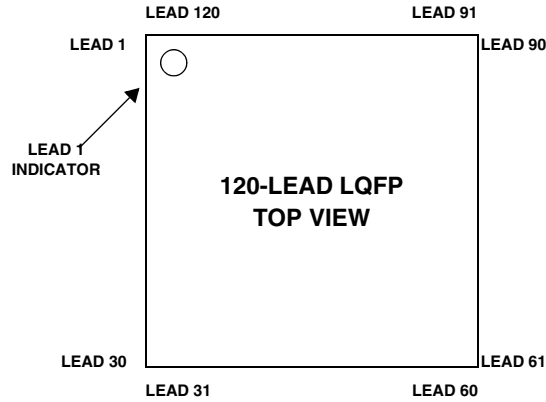
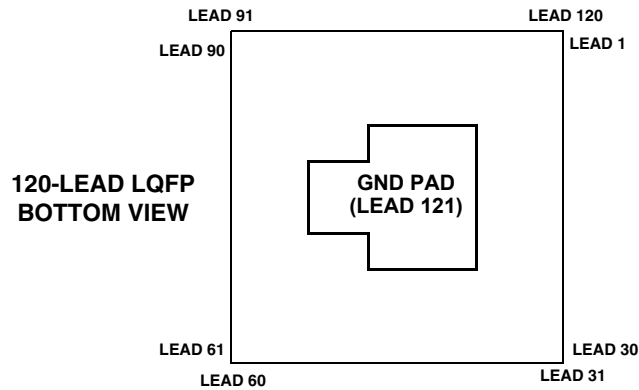

Figure 68. 120-Lead LQFP Configuration (Top View)
Figure 69. 120-Lead LQFP Configuration (Bottom View)
* Pin no. 121 is the GND supply (see Figure 69) for the processor; this pad **must** connect to GND.
Figure 68 shows the top view of the 120-lead LQFP package lead configuration and Figure 69 shows the bottom view of the 120-lead LQFP package lead configuration.